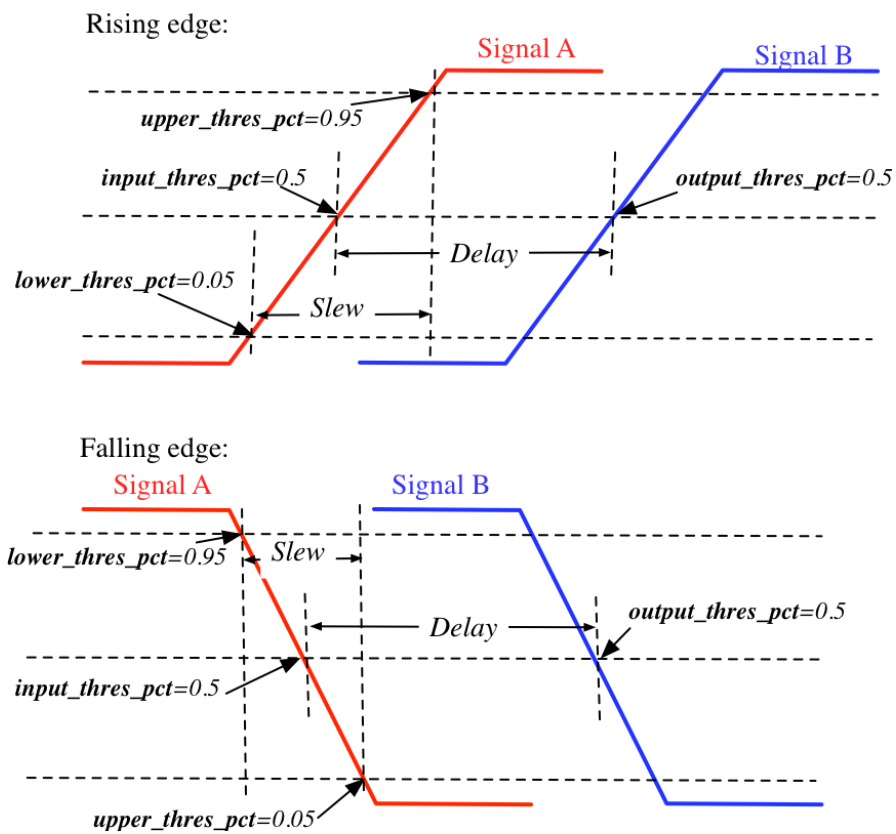

Fig. 7.17: An illustrative example on measuring the slew and delay of signals
- `upper_thres_pct="<float>"` the ending point in measuring the slew of a rising edge. It is expressed as a percentage of the maximum voltage of a signal. For example, the meaning of `upper_thres_pct=0.95` is depicted in Fig. 7.17.
- `lower_thres_pct="<float>"` the starting point in measuring the slew of a rising edge. It is expressed as a percentage of the maximum voltage of a signal. For example, the meaning of `lower_thres_pct=0.05` is depicted in Fig. 7.17.
Fig. 7.17 depicts the definition of the slew and delays of signals and the parameters that can be supported by FPGA-SPICE.